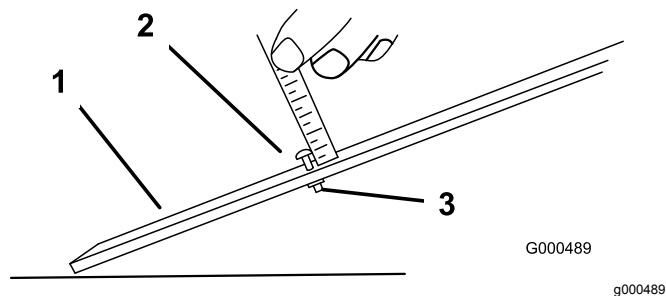

Figure 50
3. Loosen the nut on the gauge bar (Figure 50) and set the adjusting screw to the desired